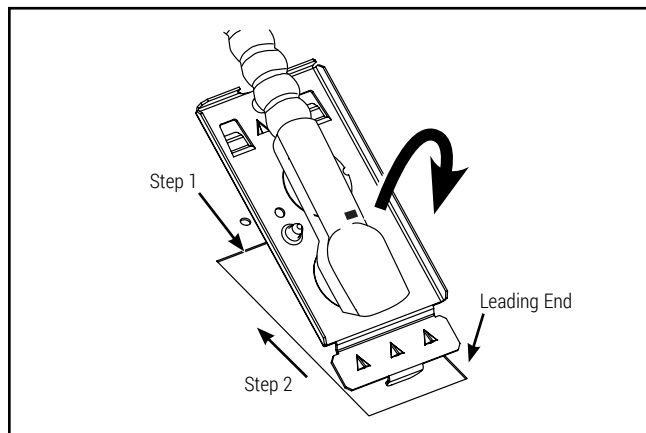
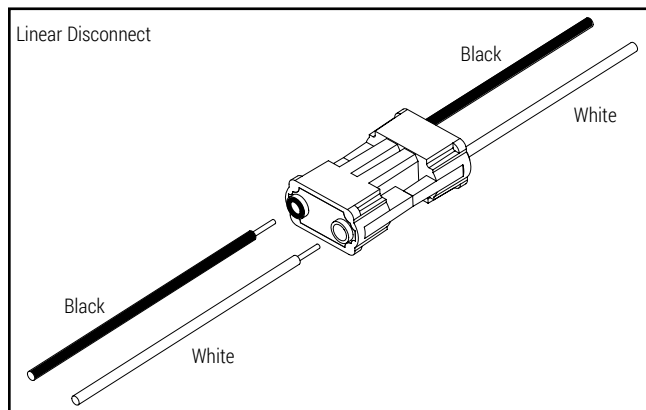

Figure 3.
Figure 4.
4. Remove electrical access plate and remove necessary knockouts from access plate for attachment of electrical supply cable (Figure 3). Make necessary wiring connections to driver AC line input. A Linear Disconnect is provided to speed installation (Figure 4).
Step 1: To insert access plate, rotate until leading end is inside the wireway (Figure 3).